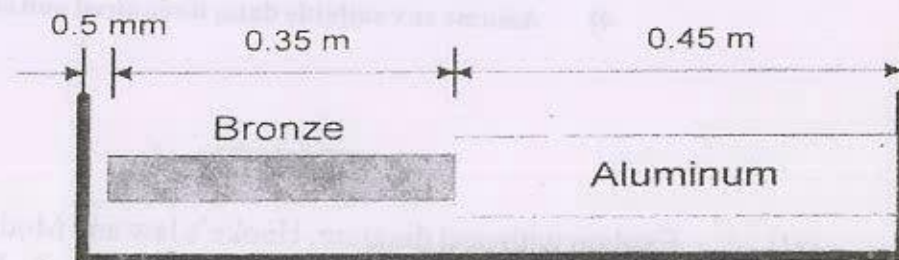

Fig. 2
- b) At room temperature (20°C) a 0.5 mm gap exists between the wall and Bronze bar of length 0.35 m. Aluminum bar of length 0.45 m is attached to Bronze bar as shown in Fig. 2. Determine the temperature at which the normal stress in the Aluminum bar will be equal to -90 MPa and corresponding length of the Aluminum bar. [13]